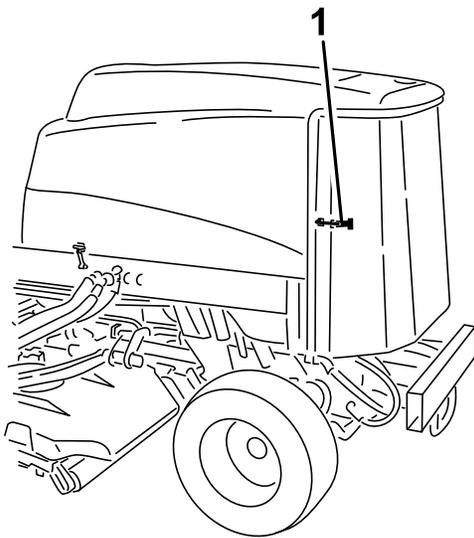

Figure 91
1. Unlatch and swing open the rear screen (Figure 91).